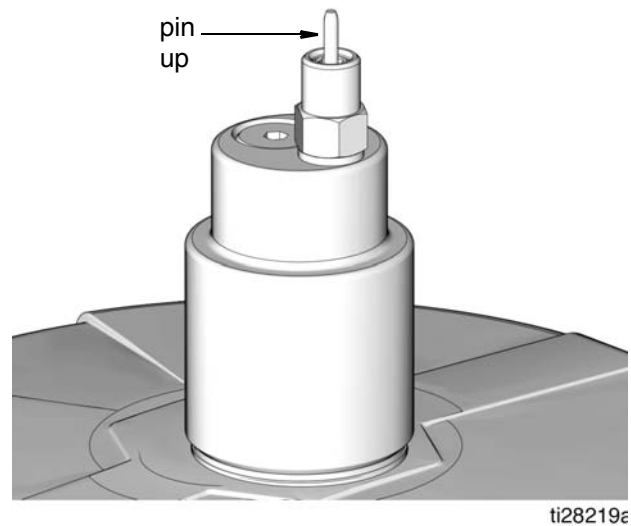

FIG. 28
2. Connect Supply Hose (J) at Quick Connect (V).
3. Turn on remote filling station pump (F) and fill the G3 reservoir (D) until the indicator pin on the Auto-Fill Valve pushes up as shown in FIG. 28. The pressure in the refill pump (F) builds and the pump stalls.